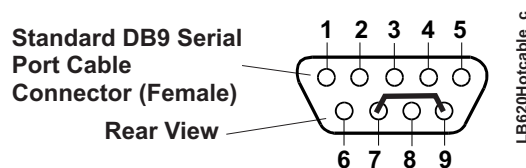

Figure 3-2. Hot Cable Jumper
To convert a standard serial cable to a Hot Cable, specific pins must be shorted together at the Serial port connector or on the DB9 cable connector. For example, short the RTS (7) and RI (9) on the respective DB9 port cable connector as shown in Figure 3-2.